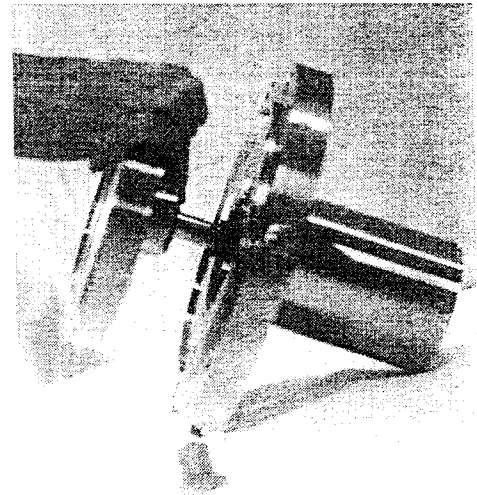

Figure 6
10. Align the two flush holes vertically on the casing cover so the pin located on the **VERTICAL POSITION** of the rear casing flange engages the hole in the casing cover. Hold the loose bushing while sliding the casing cover over the shaft [Fig. 6]. Be careful of the tight tolerances between the bushing and sleeve.